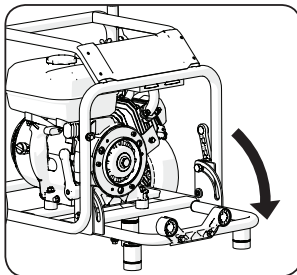

Fig 8
- Deploy the Accessory Mounting Frame. **(Fig. 8)**